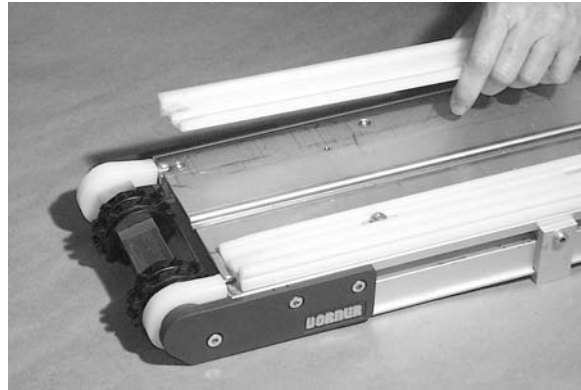

Figure 47
- Remove old wear strip (Figure 47).